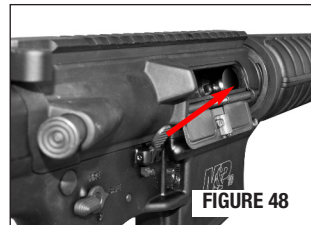

FIGURE 48
- Look into the chamber through ejection port to ensure that the chamber is empty (FIGURE 48).